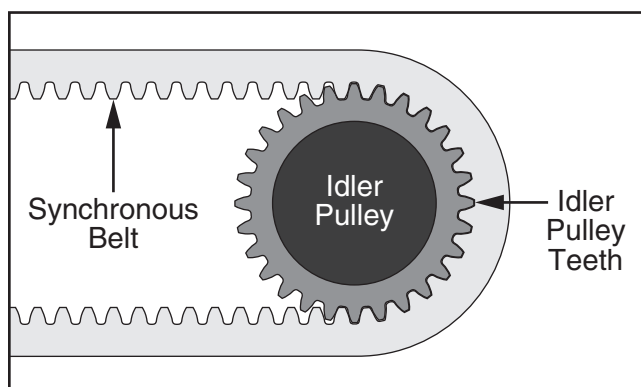

Figure 90. Synchronous belt meshing with idler pulley teeth.
15. Verify belt meshes with all idler pulley teeth (see **Figure 90**).